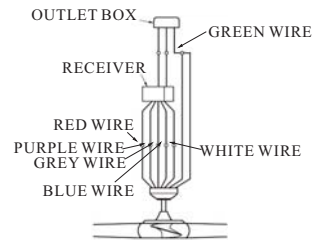

FIG.7
2. Connect the red wire from receiver to the red wire from fan with wire nut. Connect the purple wire from receiver to the purple wire from fan with wire nut. Connect the blue wire from receiver to the blue wire from fan with wire nut. Connect the grey wire from receiver to the grey wire from fan with wire nut. Connect the white wire from receiver to the white wire from fan with wire nut. Connect the green wire from ceiling, and green wire from hanger bracket with wire nut. (see Fig. 7)